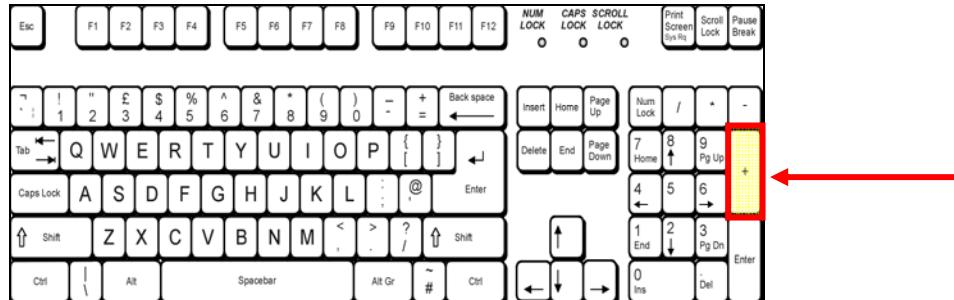

Figure 26
- Once all products have been scanned into the sale, the transaction may then be completed simply by pressing the + key located on the right hand side of the keyboard.(as shown in Figure 26)